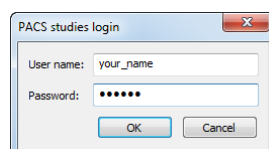

Figure 96 – PACS studies login dialog
- Set the filter and push the **Search** button. You may be asked to provide your authorization (the valid user name and password) in the **PACS Login** dialog (see Figure 96).